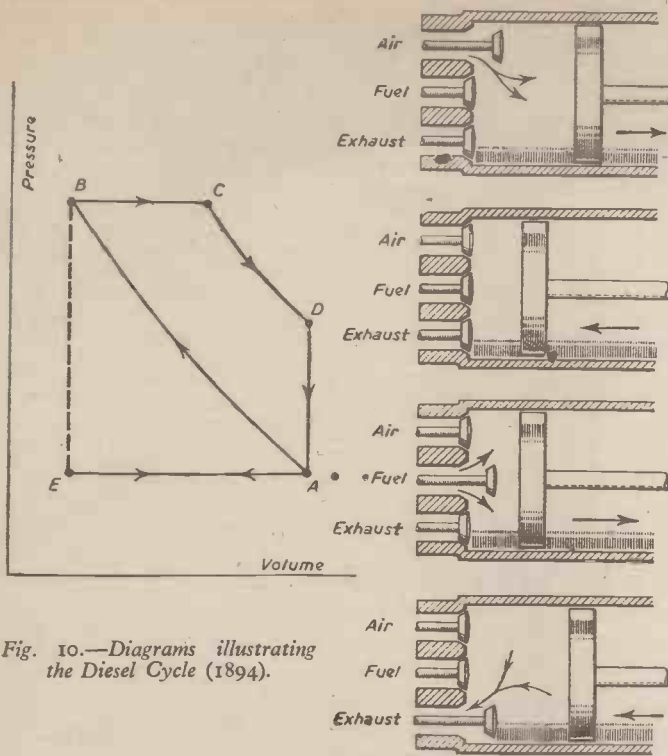

Fig. 10.—Diagrams illustrating the Diesel Cycle (1894).
When the exhaust valve opens the pressure of the waste gas drops to that of the atmosphere (DA), and the gases themselves are swept from the cylinder by the scavenging stroke of the piston (AE). The ideal Diesel cycle (1894) is represented in Fig. 10. A charge of air is drawn into the cylinder and compressed adiabatically by suction and compression strokes (EA, AB, respectively), as in the Otto cycle. The air temperature is sufficiently high as a result of the adiabatic compression to cause the injected fuel to burn immediately with expansion at constant pressure (BC). An adiabatic expansion (CD) follows the closing of the fuel valve and the spent gases are released to the atmosphere and swept from the cylinder as in the Otto cycle.